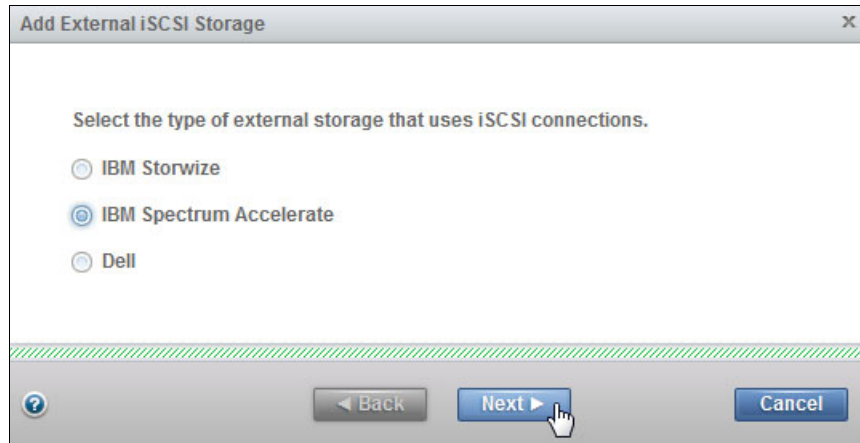

Figure 4-16 Add External iSCSI Storage: IBM Spectrum Accelerate
2. In the Storwize V7000 GUI click **Pools** → **External Storage** → **Add External iSCSI Storage**, select **IBM Spectrum Accelerate**, and click **Next**, as shown in Figure 4-16.